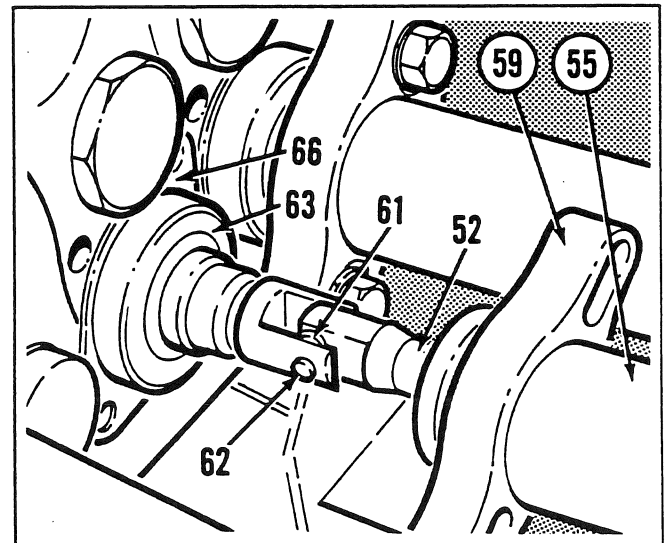

Fig. 43
Install and tighten the jam nut (53) against the bonnet (55). Referring to the measurement noted in Fig. 5, reposition the bonnet and make any adjustments. Tighten the two bolts (56) retaining the plate (59) to the specified torque. Uncap and connect the hoses and tubes. Repeat the procedures (Figs. 43 and 44) to install any remaining cables. Operate all the control levers to ensure that no binding or sticking occurs. Refer to **Inspection - Binding/Sticking Problems**.